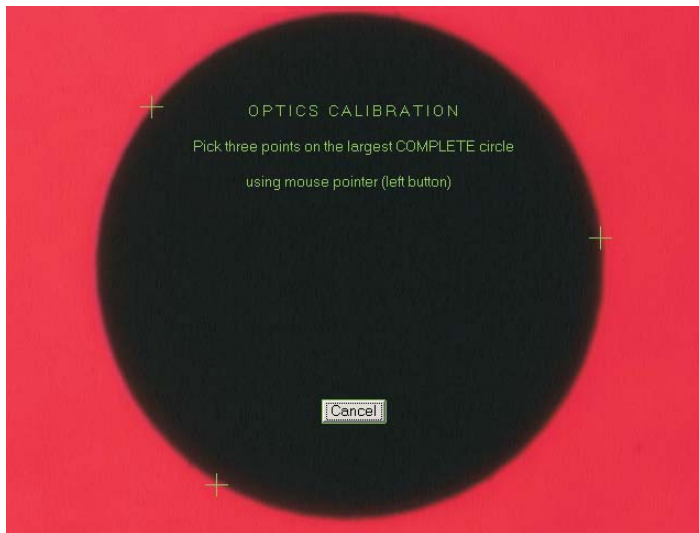

Figure 4-4. Image of LED Reticle
13. Select three points on the largest complete circle that fits in the Image window (see Figure 4-4). Make sure the points are equally spaced.